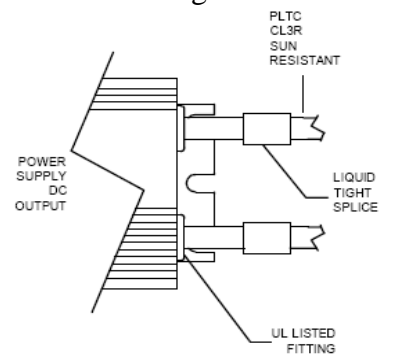

Fig3
- Output cord must be rated and marked PLTC or CL3R or “Sun Resistant” (Fig 3).